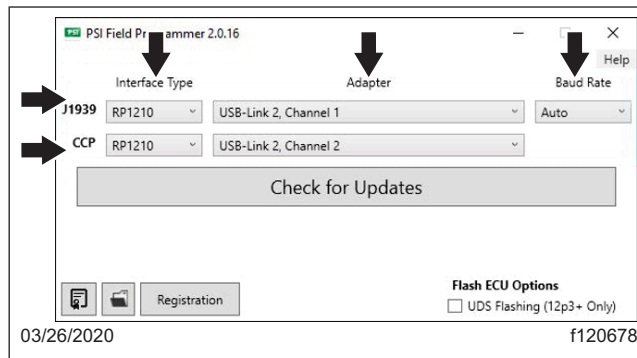

Fig. 11, Selecting the Interface Type, Adapter, and Baud Rate
1. Once the PSI Field Programmer opens, select the CAN Interface Type, Adapter, and Baud Rate. The baud rate should always be 500k for MY 2020 or later (vehicle models). See Fig. 11.